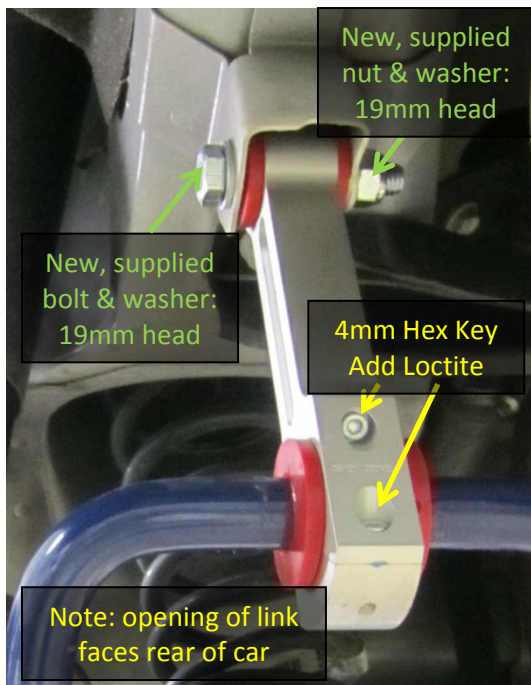

Figure 10
18. Attach the end links to the bar making sure that the opening of the end link faces the rear of the car. The hex cap screws use a 4mm hex/Allen key. I used a little Loctite on each of the hex cap screws. See Figure 10.
19. Using the supplied nut, bolt and washers, attach the tops of the end links to the factory mount points. For this you will need 2 x 19mm wrench/socket. Do not tighten. See Figure 10.